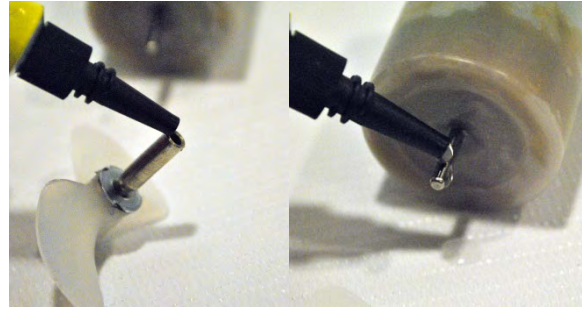

Figure 2.6-1: Adhesive on Tip of Roughened Motor Shaft and In Hollow End of Shaft Coupler
8. Place a drop of Super glue in the hollow end of the shaft coupler *and* on the tip of the motor shaft, as in Figure 2.6-1. Push the hollow end of the shaft coupler onto the motor shaft. A completed thruster is shown in Figure 2.6-2.